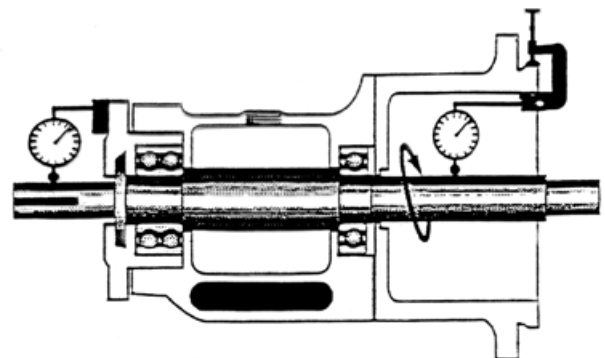

Figure 43 - Using dial indicators to check shaft runout
2. Check total indicated run out, it should not be more than  $0.003''$  (0.08mm) (Figure 43).